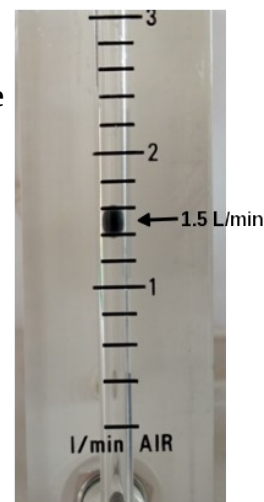

Figure T1-7. Rotameter operating at 1.5 L/min
(2) Turn the pump ON. Using a small Phillips-head screwdriver provided in the Galson Pack, open the door covering the ON/OFF switch on the pump. Loosen the screw just enough to allow you to rotate the door to give you access to the power switch and then turn it ON.
(3) Read the flow rate off the rotameter (DO NOT use the rotameter on the pump itself). Be sure you are looking at the rotameter perpendicular to the face and not at an angle. Read the flow rate looking at the center of the ball (see Figure T1-7). The divisions on the rotameter are 0.2 LPM each. Read the flow rate to the closest 0.1 LPM (See Note T1-8) and record this number on the *Formaldehyde in Air Sample Collection Log* along with the ID of the *Field Calibration Check Only* tube being used. If you are the assigned QT sample custodian, then record the flow rate check results on the *Air Sample Collection Setup Log*.